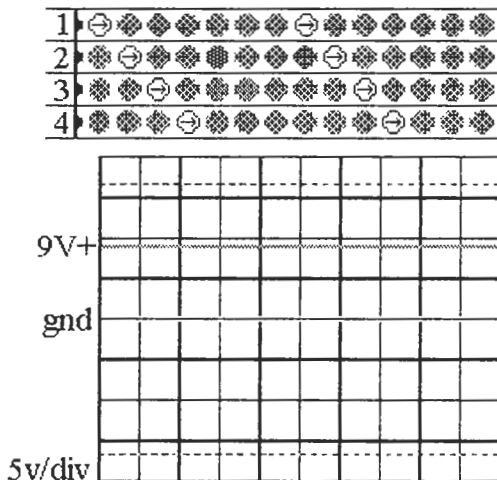

Figure L49-1
We always hear the terms *direct current* (DC) and *alternating current* (AC). Direct current means that the current in the system is always flowing in one direction. Electronics depends on direct current. Naturally, flowing water has been a good comparison for positive DC voltage $V+$. Water always flows in one direction—downhill, toward the lowest point. Direct current is easily generated by chemical reactions in batteries. Figure L49-1 shows positive movement of electrons while the scope shows the voltage is above